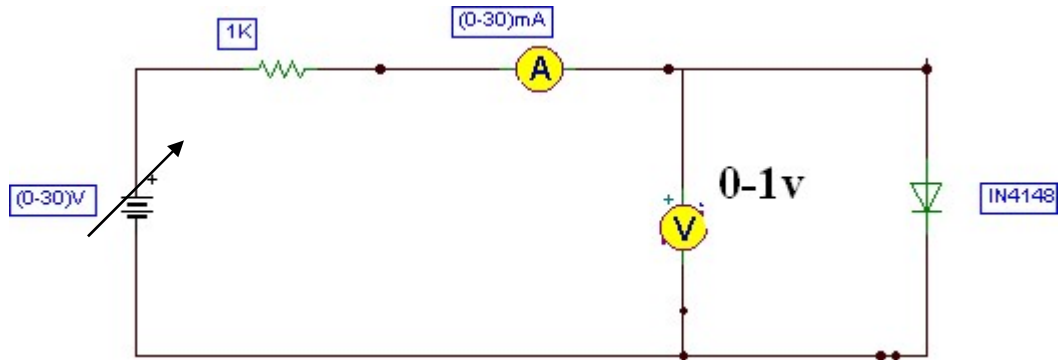

Figure.1
1. Connect the circuit as per the given circuit diagram shown in figure:1
4. Plot a graph taking voltage (V) on X axis and current (I) on Y axis